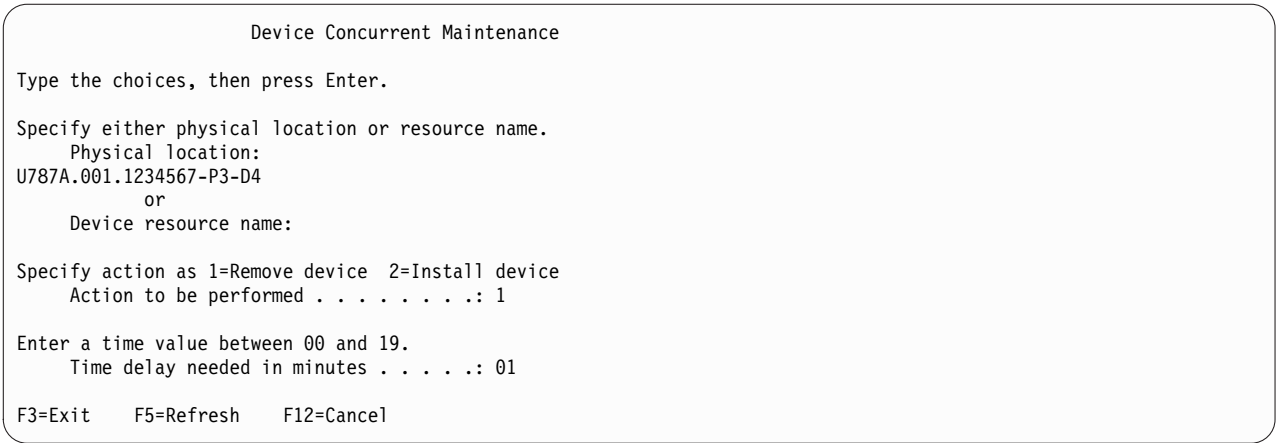

Figure 72. Example Device Concurrent Maintenance display
10. From the Hardware Service Manager, navigate to **Select Device Concurrent Maintenance** option. Press Enter. The Device Concurrent Maintenance display is shown, as shown in the Figure 72 on page 74.